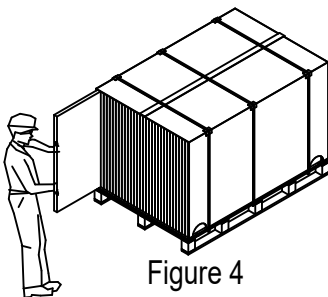

Figure 4
4. Slowly pull out the modules from the back side of the module, as shown in Figure 4, then carry one module with two people.